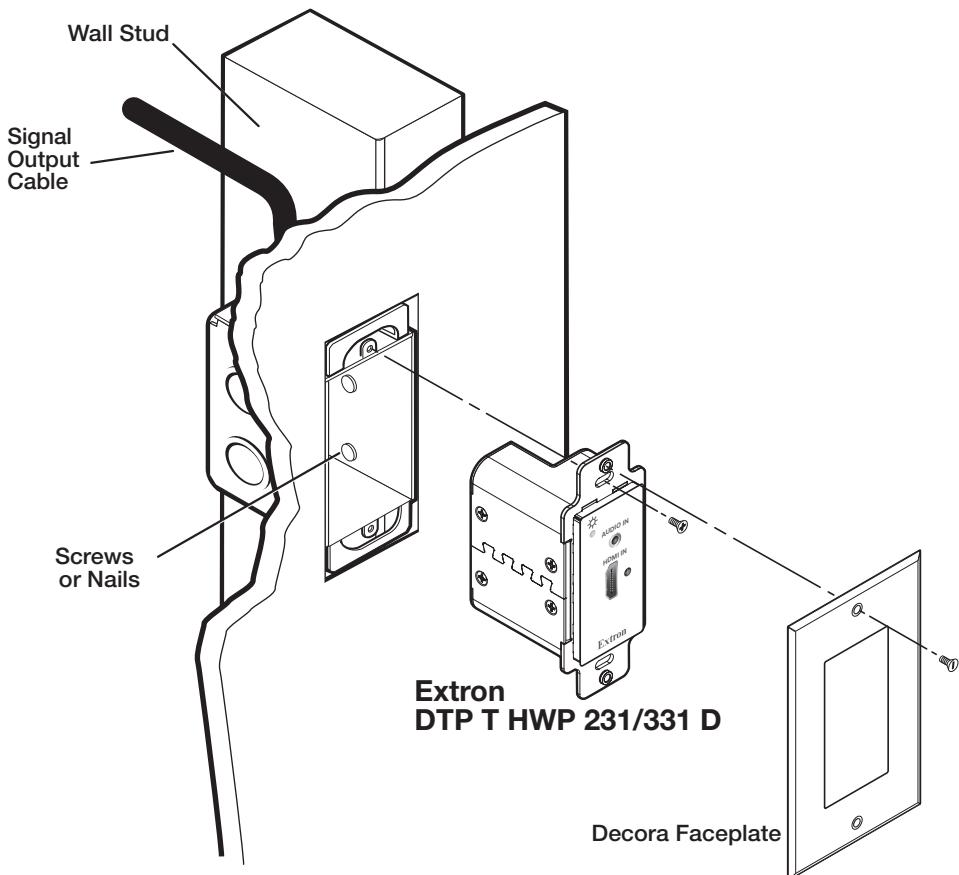

Figure 3. Installing the Wall Box and Mounting the Unit
5. Secure the wall box with nails or screws, leaving the front edge flush with the outer wall or furniture surface (see figure 3).
2. Mount the transmitter into the wall box or mud ring, and attach the supplied Decora faceplate to the unit (see figure 3 on page 5).